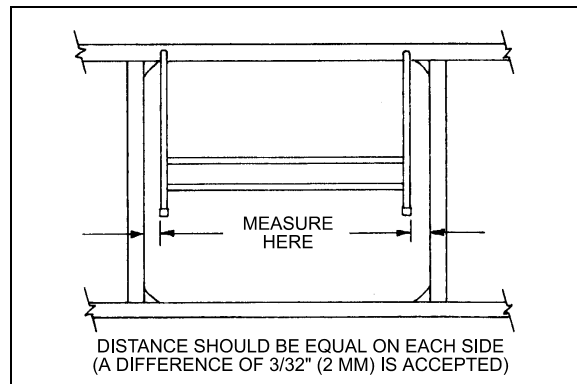

FIGURE 53: PANTOGRAPH DOOR ADJUSTMENT 18063
5. When the door is straight, remove the 2x4's and check door operation and fit. A difference of $3/32"$ (2mm) between both sides is accepted (Fig. 53).